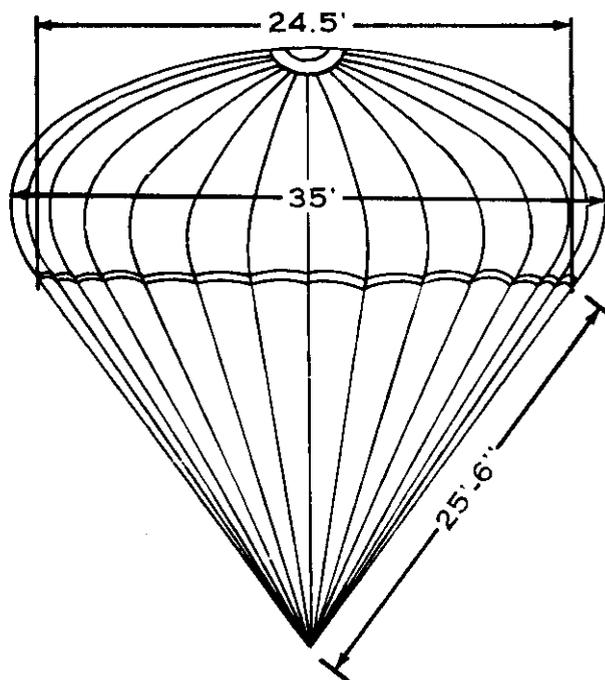

Figure 111. Dimensions of the T-10 parachute.
a. The T-10 parachute is a troop type, static line operated, bag deployed, pack assembly. It has a flat, extended shirt canopy, type MC-1, with a 35-foot nominal diameter and 24.5-foot projected diameter (figs. 111 and 112). The canopy is constructed of type I rip-stop nylon weighing 1.1 ounces per square yard. The canopy has 30 suspension lines made of type II nylon cord with a tensile strength at 375 pounds each. Each suspension line is 25 feet and 6 inches in length, not including the connector link to the lower lateral band. The lines do not extend over the canopy. The canopy is divided from the apex to the skirt into 30 wedge-shaped gores. Each gore has five diagonally stitched sections. The framework of the canopy is constructed of 30 lengths of type I nylon webbing 9/16 of an inch wide. These lengths of webbing are located in the channels formed by the joining of any two consecutive gores and are 17 feet, 2 7/32 inches in length between the upper and the lower lateral bands. The upper lateral band is made of 4,000-pound tensile strength, 1-inch tubular nylon webbing sewed into the folded-over canopy material and it completely encircles the canopy at the apex. The lower lateral band is made of 525-pound tensile strength, 1-inch tubular nylon tape sewed into the folded-over canopy material and it completely encircles the canopy at the skirt. There are 15 vent or apex lines which measure 19 inches across the 20-inch vent.